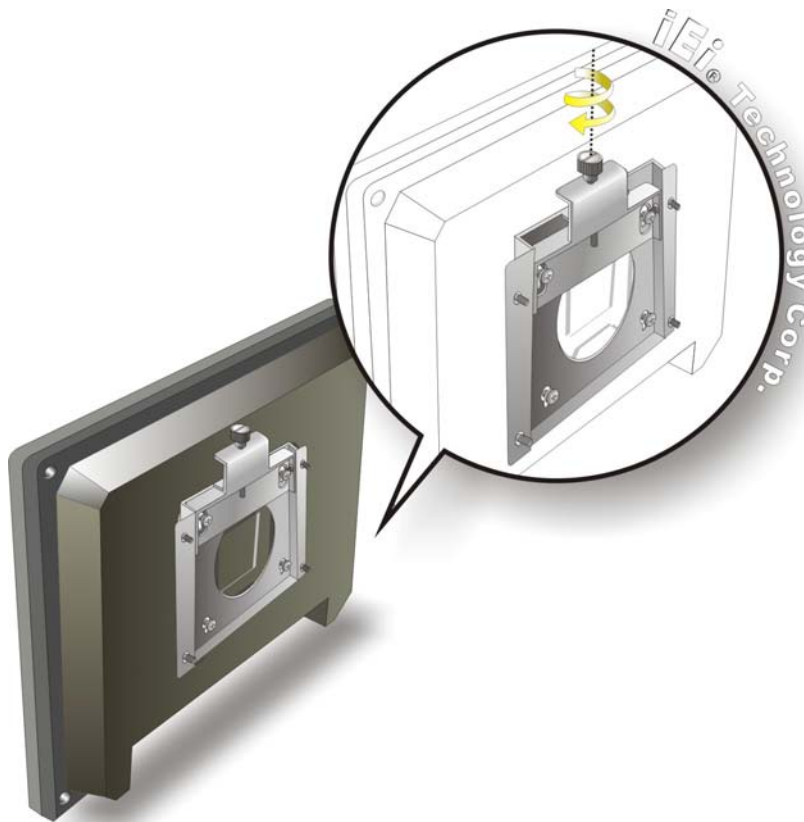

Figure 3-6: Secure the Panel PC
- Step 9:** Secure the panel PC by fastening the retention screw of the wall-mounting bracket. (Figure 3-6).